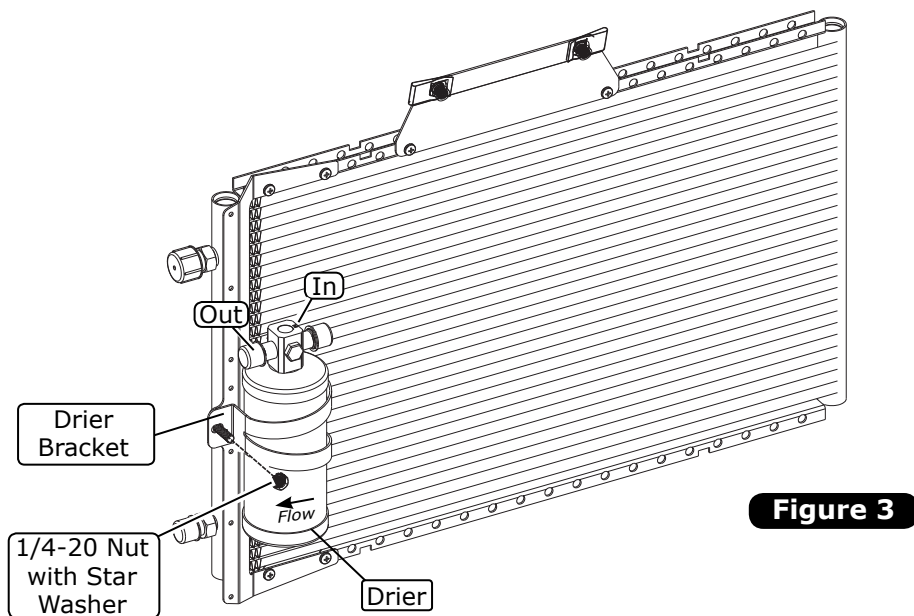

Figure 3
1. Insert the drier into the drier bracket (See Figure 3, below).
2. Loosely secure the drier into the drier bracket using a 1/4-20 star nut with washer as shown in Figure 3, below. **NOTE: Do not fully tighten the nut at this time. Refrigerant flow through the drier is IN from condenser, OUT to evaporator.**